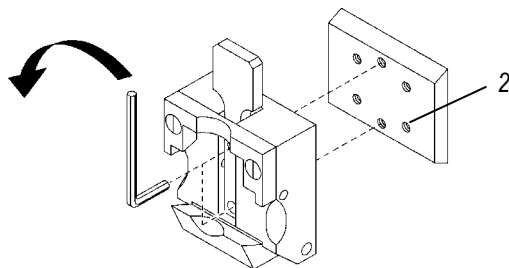

Fig. 3-3
- To remove the dovetail guide (2), detach the two corresponding screws at the specimen clamp (Fig. 3-3).